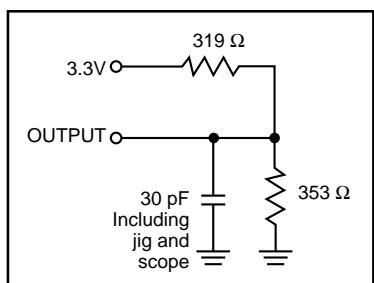

Figure 1
- Test conditions assume signal transition times of 3 ns or less, timing reference levels of 1.5V, input pulse levels of 0 to 3.0V and output loading specified in Figure 1.
Output Load	See Figures 1 and 2